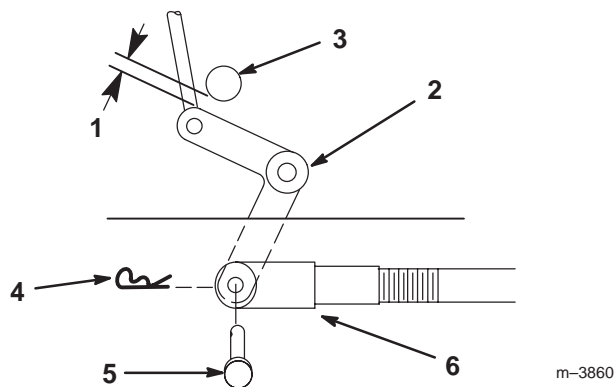
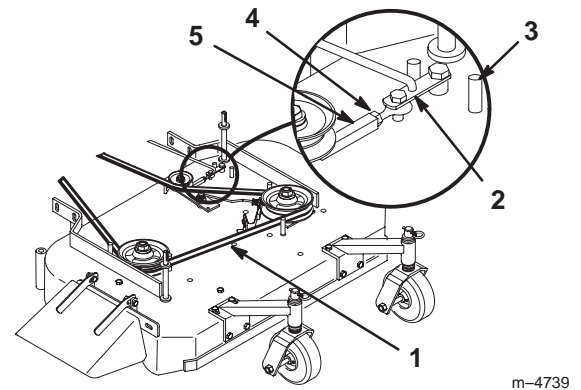

Figure 42
Figure 43
9. Check the clearance between the bell crank and the transmission output shaft (Fig. 42).
11. Rotate the clevis clockwise on the rod to increase the clearance; rotate it counterclockwise to decrease it (Fig. 42).
Note: If the assist arm does not contact the front stop on the mower deck (Fig. 43), adjust the clevis to bring the bell crank closer to the transmission output shaft (Fig. 42).
3. Loosen the locknut on the turnbuckle (Fig. 43).
4. Rotate the turnbuckle toward the rear of the mower to increase the tension on the belt. Rotate the turnbuckle toward the front of the mower to decrease the tension on the belt (Fig. 43).